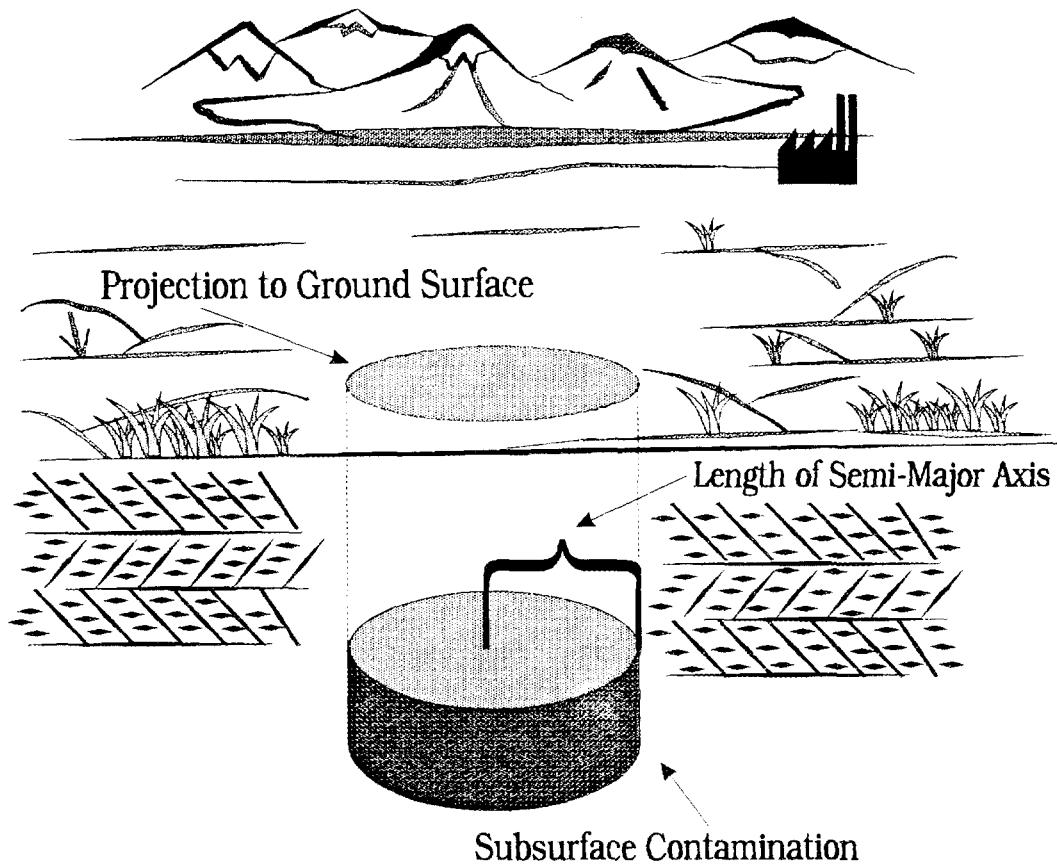

Fig. 1. Hypothetical subsurface pocket of contamination.
1. The target (hot spot) is assumed to be circular or elliptical. See Fig. 1 for an illustration of an elliptical subsurface pocket of contamination.